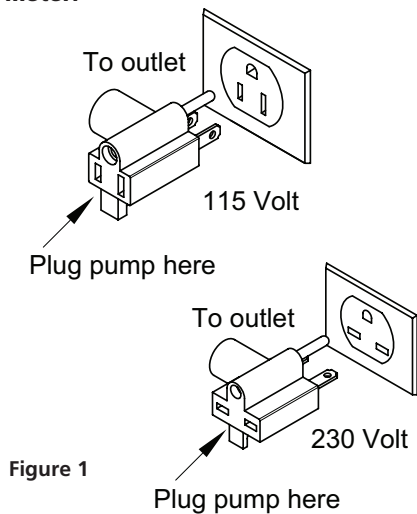

Figure 1
**⚠ WARNING** *Risk of electrical shock. Can burn or kill. To reduce risk of electrical shock, pull plug before replacing switch. Be sure switch is connected only to a properly grounded grounding-type receptacle. Where a 2-prong wall receptacle is encountered, it must be replaced with a properly grounded 3-prong receptacle installed in accordance with codes and ordinances that apply (See Figure 1). If use with a pedestal sump pump or other non-submersible motor, be sure switch tether setting does not allow water to touch motor.*